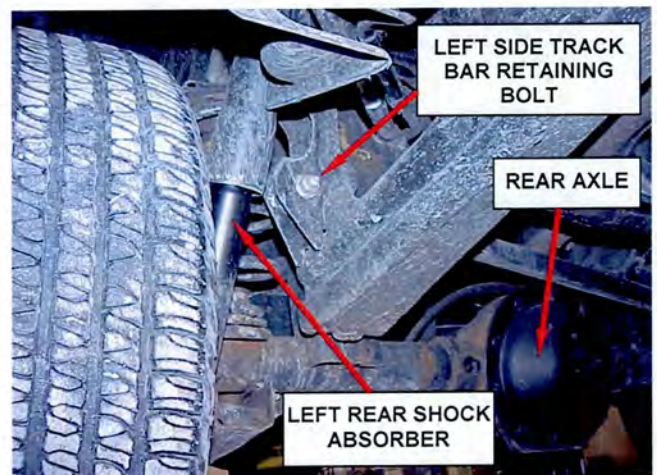

Figure 2 – Left Side Track Bar Bolt
c. Remove the left side (body side) track bar retaining bolt (Figure 2).